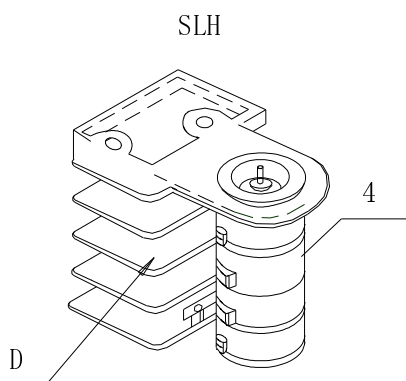

Fig. 8-2-2
Hoist the hook with 2-fall (or 4-fall) until a distance of only 1m remains between trolley and pulley block. Turn cam (4) by means of corresponding adjusting screw and check hoist control until it depresses the corresponding contact D so as to stop hoisting. (See Fig. 8-2-2).